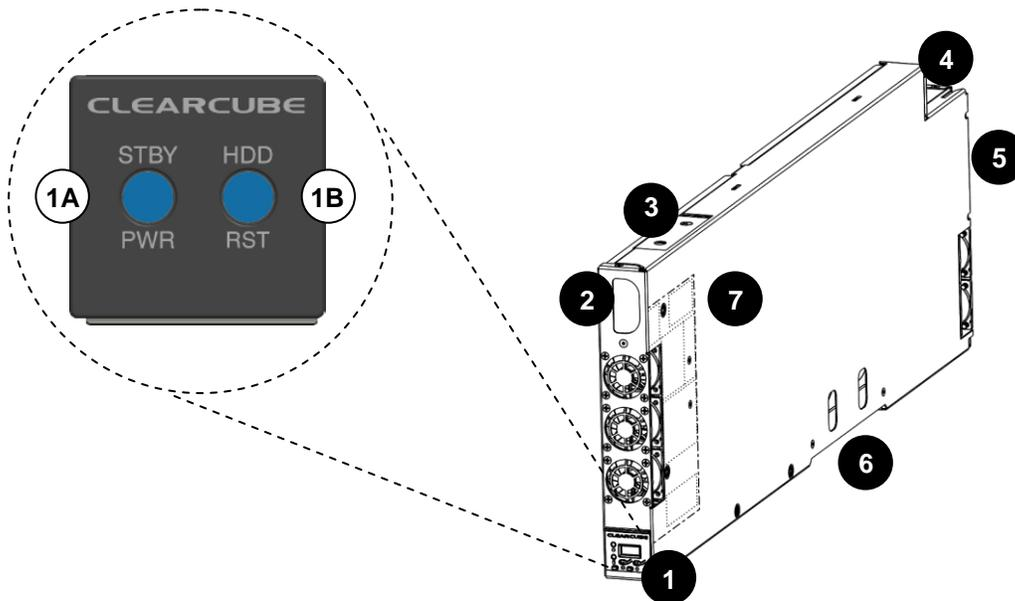

Figure 1. The A6106HL Blade PC components
The power button is located on the left portion of the front panel, shown as 1A in Figure 1 on page 1.
The reset button is located on the right portion of the front panel, shown as 1B in Figure 1 on page 1.
- a ClearCube zero client compatible with the blade’s video configuration (a dual zero client for a dual host card or a quad zero client for a quad host card). The blade’s video configuration is specified on a label on the side of the blade (shown as item 7 in Figure 1 on page 1).